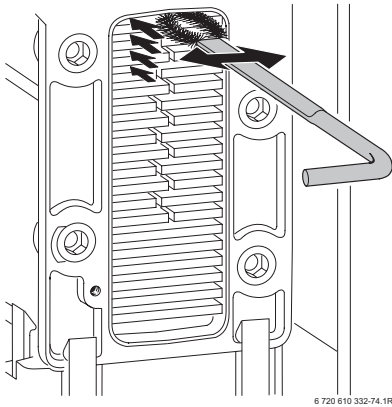

Fig. 47
- Clean the heat exchanger from top to bottom using the brush. Refer to fig. 47.